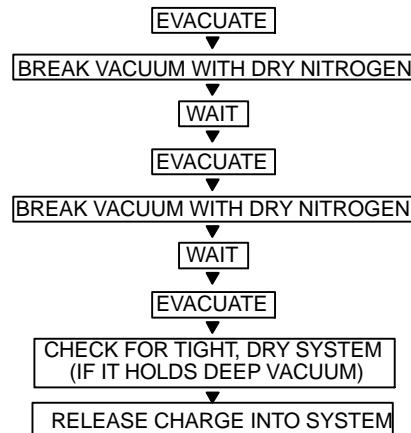

Fig. 12 – Triple Evacuation Method
The triple evacuation method should be used. Refer to Fig. 12 and proceed as follows:
- 5 Repeat this procedure as indicated in Fig. 12. System will then be free of any contaminants and water vapor.